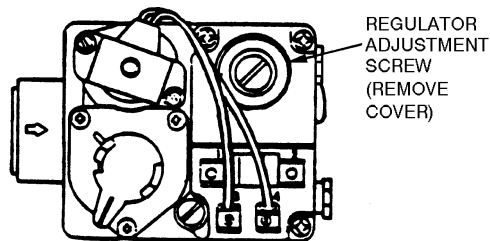

Fig. 92 — Gas Valve
6. Remove screw cap covering regulator adjustment screw (see Fig. 92).